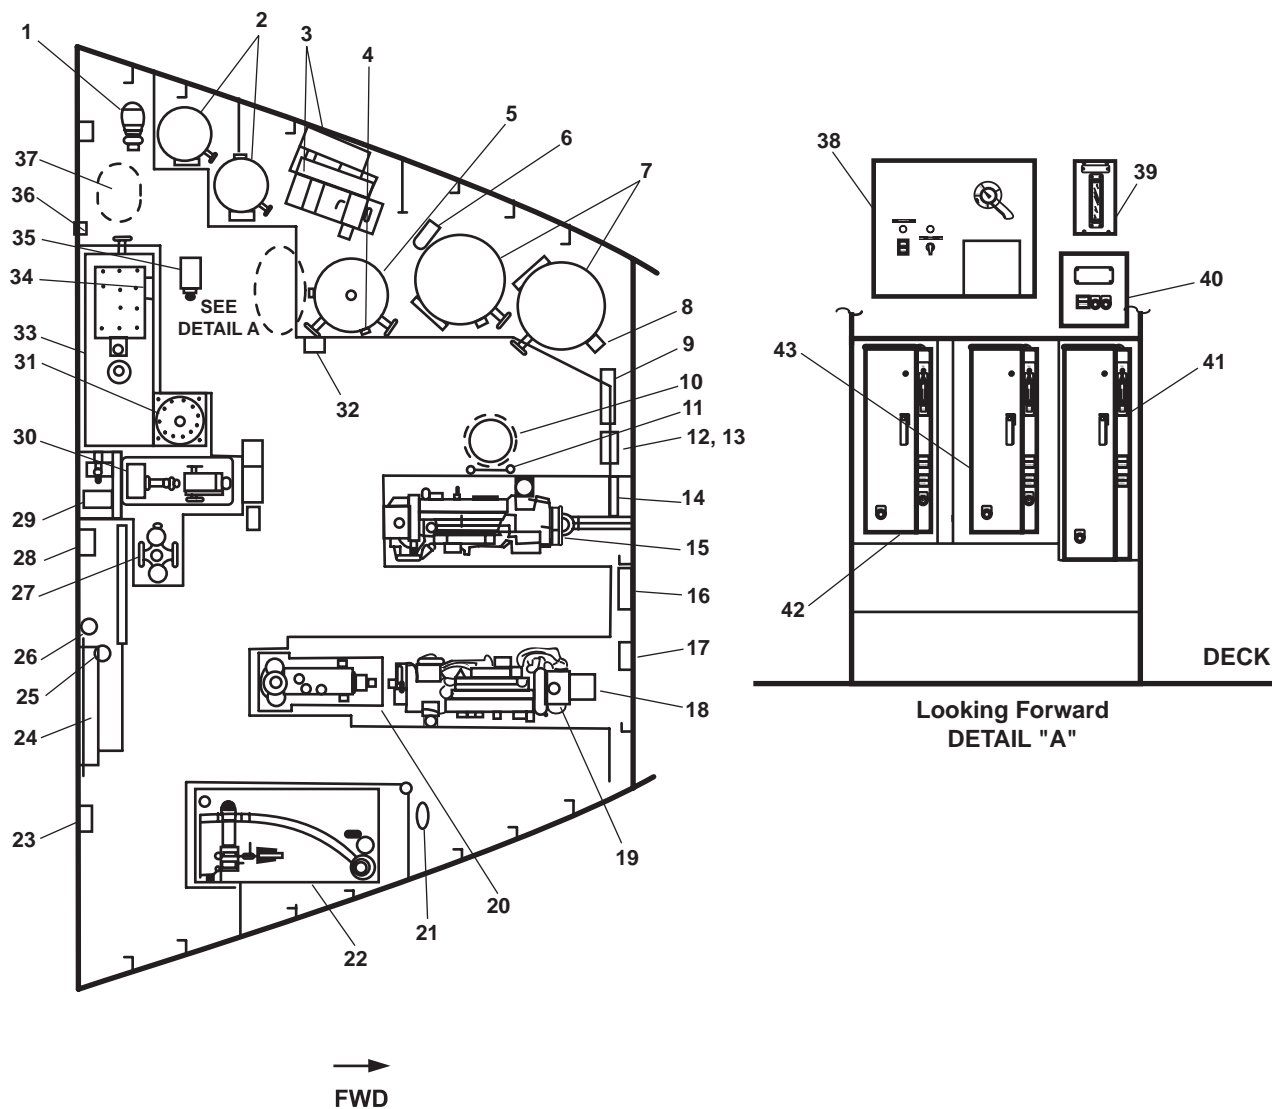

Figure 2. AMS 1
1. AMS 1 houses the starting air receivers, the bow thruster engine, the pump drive engine, towing machine hydraulic reservoir, Marine Sanitation Device (MSD), and air compressors. Details of this space are contained in figure 2.
1. Hot water recirculating pump (figure 2, item 1). The hot water recirculating pump provides continuous circulation of hot water in the hot potable water piping system.
2. Hot water heaters (figure 2, item 2). The two hot water heaters provide potable water, heated to the set point temperature, for the hot potable water piping system.
3. Air compressors (figure 2, item 3). The air compressors provide compressed air to the air receivers.
4. Ship's service air pressure gauge (figure 2, item 4). The ship's service air pressure gauge measures air pressure in the ship's service air receiver.
5. Ship's service air receiver (figure 2, item 5). The ship's service air receiver provides storage for the ship's service air.
6. Air compressor 1 and 2 discharge pressure and ship's service air pressure gauges (figure 2, item 6). The air compressor 1 and 2 discharge gauges measure the level of pressure entering the starting air receivers. The ship's service air pressure gauge measures the pressure in the ship's service air receiver.
7. Starting air receiver (figure 2, item 7). The starting air receiver provides storage for diesel engine starting air.
8. Starting air receiver pressure gauge (figure 2, item 8). The starting air pressure gauge measures the air pressure available to the engines' starting motors.
9. 440V power panel No. 4 (figure 2, item 9). This power panel provides 440 volt power distribution for the air compressors 1 and 2, the MSD discharge pump and blower, the hot potable water recirculating pump, the AMS 1 supply fan and the AMS 1 unit heater.
10. Scuttle (escape hatch) (figure 2, item 10). The scuttle provides an emergency escape from AMS 1.
11. Vertical ladder (figure 2, item 11). The vertical ladder leads to the main deck.
12. AMS 1 supply fan motor controller (figure 2, item 12). This controller controls the operation of the AMS 1 supply fan. This controller also permits the operator to select FAST, SLOW, and STOP.
13. BOW THRUSTER BRAKE PANEL (figure 2, item 13). This panel provides local manual control for the bow thruster shaft brake.
14. Space heater (above) (figure 2, item 14). The heater provides heated air for AMS 1.
15. Bow thruster engine (figure 2, item 15). The bow thruster engine drives the bow thruster components.
16. Fire station 3 (figure 2, item 16). The firefighting station uses raw water and is equipped with 50 feet (15.24 m) of 1-1/2 inch hose and an all-purpose nozzle.
17. Pump drive engine and bow thruster engine starting air pressure gauges and fire main pressure gauge (figure 2, item 17). The starting air pressure gauges measure the level of air pressure available to the pump drive and the bow thruster starters. The fire main pressure gauge measures the level of pressure available from the firefighting pump.
18. Hydraulic towing machine (figure 2, item 18). The hydraulic oil pump provides pressurized hydraulic oil to power the towing machine, and can be aligned to power the central hydraulic system. It is driven by the pump drive engine.
19. Pump drive engine (figure 2, item 19). The pump drive engine drives the hydraulic towing machine (figure 2, item 17) and the firefighting pump (figure 2, item 20).